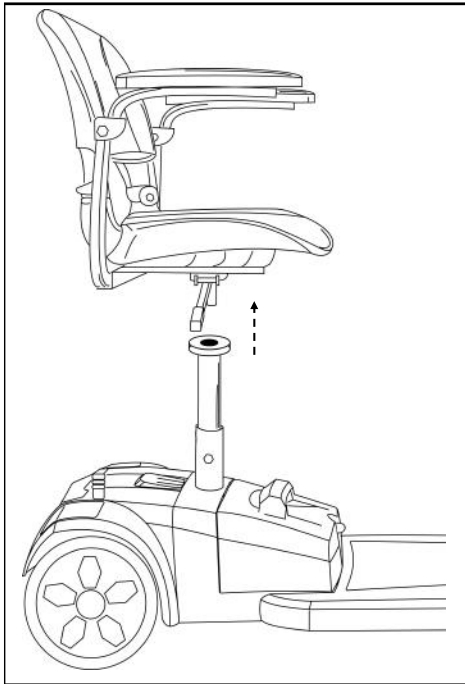

Figure 15. Removing the Seat
3. Grip the seat on opposite sides and, with a firm grip; pull the seat straight up. See figure 15.